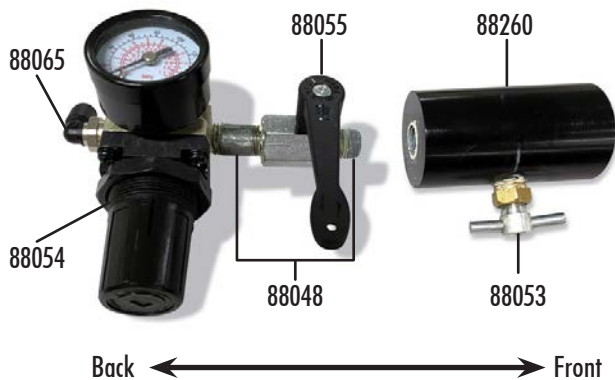

FIGURE 31— The assembly from front to back is as follows. 88260, 88053, 88048, 88055, 88048, 88054, and 88065.
7. Lay out all of the air regulator/bleeder valve parts for P/N 8805 (see Figure 31).